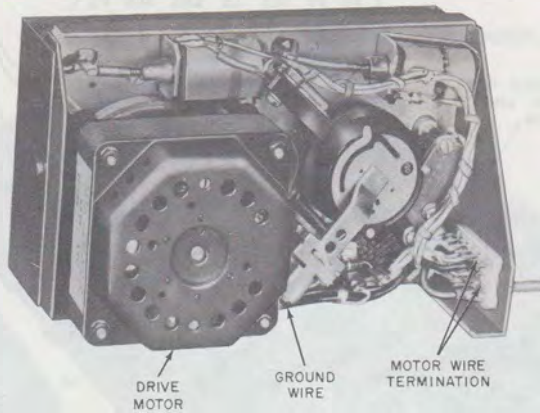

Fig. 5—KS-19245, List 2 Recorder (Motor Side)
#### 3.01 *KS-19245, List 2 Recorder (Fig. 5):*
#### 4. REPLACEMENT OF BELT ON KS-19245, LIST 2 RECORDER (Fig. 5)
- (1) Remove top cover (2.01).
- (2) Remove KS-19245, List 4 amplifier (2.03).
- (3) Release timer cap by carefully depressing timer arm.
- (4) Adjust recording capacity by carefully lifting tab of timer spring from slot and rotating to position of desired interval (Fig. 5).
- (5) Replace KS-19245, List 4 amplifier.
- (6) Replace top cover.